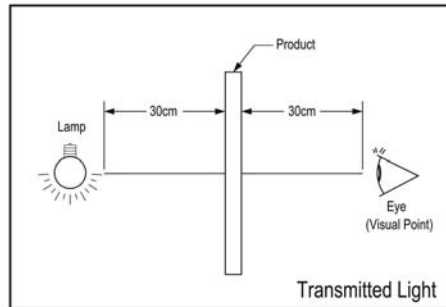
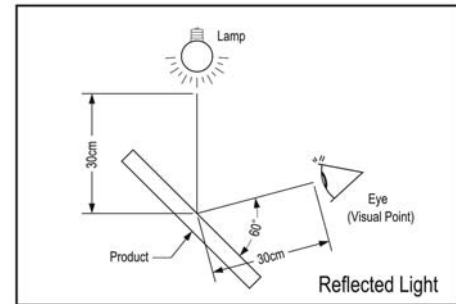

Figure 11-1
Figure 11-2
(1) 18W(1000 ± 500Lux) fluorescent luminant lamp is used for appearance inspection. Detail settings are shown in (Fig 11-1) and (Fig 11-2).
[(1) 檢測始用之燈光為 18W(1000±500Lux)白熾燈光，詳細的擺設方式，請參考圖(Fig11-1), (Fig11-2)]
(2) Minor impurities outside viewing area are acceptable unless their existence affect electrical functions.